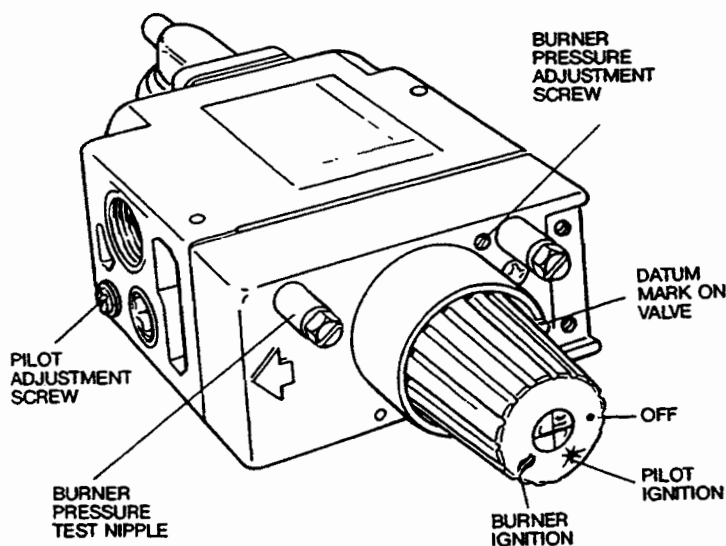
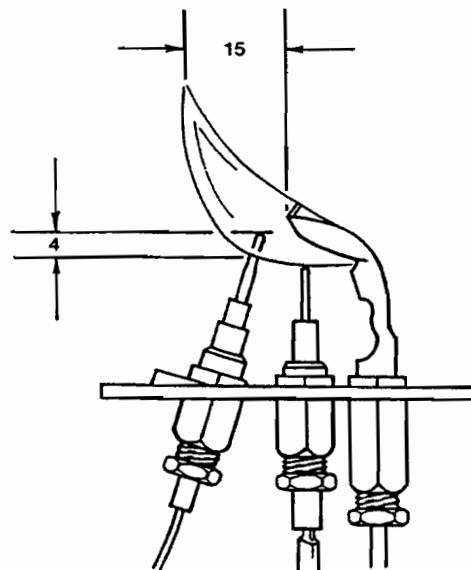

FIG. 22. GAS CONTROL VALVE
FIG. 23. PILOT BURNER
- F Partly depress and turn the gas control knob clockwise ensuring the symbol  lines up with the datum mark on the gas valve body. See FIG. 22. This ensures that the valve is in the 'OFF' condition.
- A Remove the screw from the burner pressure test nipple on the gas control valve and fit a pressure gauge to the test nipple. See FIG. 22.
- C If burner pressure adjustment is necessary, turn the small slotted head screw, located on the front of the control valve between the control knob and the inlet pressure tapping (clockwise to decrease pressure, anti-clockwise to increase pressure). See FIG. 22.
The pilot burner pressure is factory set and should not need further adjustment. When correctly set, the pilot flame should heat the thermocouple so that the pilot safety device is "held in" but must not cause the thermocouple to glow bright red. FIG. 23 illustrates the approximate size of a correctly adjusted flame. The E.M.F. generated by the thermocouple should be of the order of 20-30 mV open circuit, 10-14 mV closed circuit. Due to the voltage drop in the overheat thermostat circuit there should be 6.5-8.5 mV closed circuit at the connection to the gas control valve. Drop out should occur between 1-3 mV closed circuit. If the pilot needs adjustment, rotate the pilot adjustment screw clockwise to reduce or anti-clockwise to increase the flame. See FIG. 22.
The following operations are only necessary if the pilot flame is distorted or the wrong size, and cannot be corrected using the pilot adjusting screw in the gas control valve, see FIGS. 22, 23.